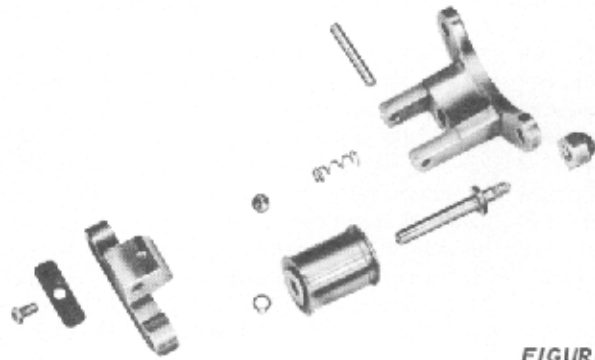

FIGURE 3
a. Remove the two SPROCKET CLAMP SCREWS and the SPROCKET CLAMP. Disassemble the clamp as shown in figure 3.